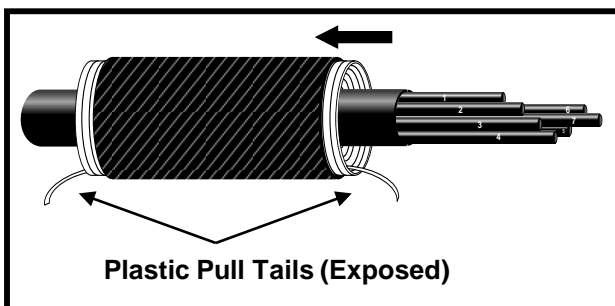

Figure 6
8.1 Slide Shrink Sleeve over one Tube Cable end and past exposed Tubes. Be sure that one pull tail of the Sleeve’s plastic core inner wrapping is exposed at each end of the Sleeve. **See Fig. 6.**